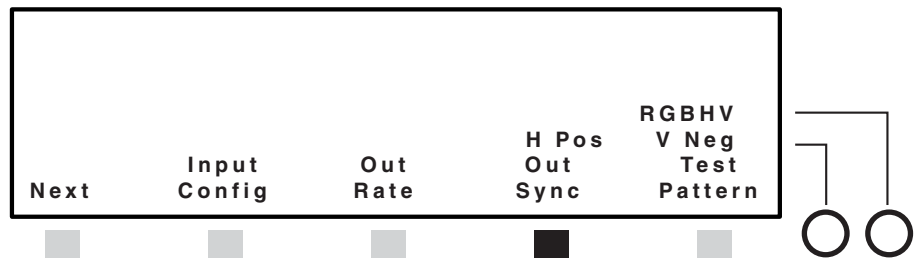

Figure 3-10 — Selecting the output sync format
- Press the Out Sync button (figure 3-10).